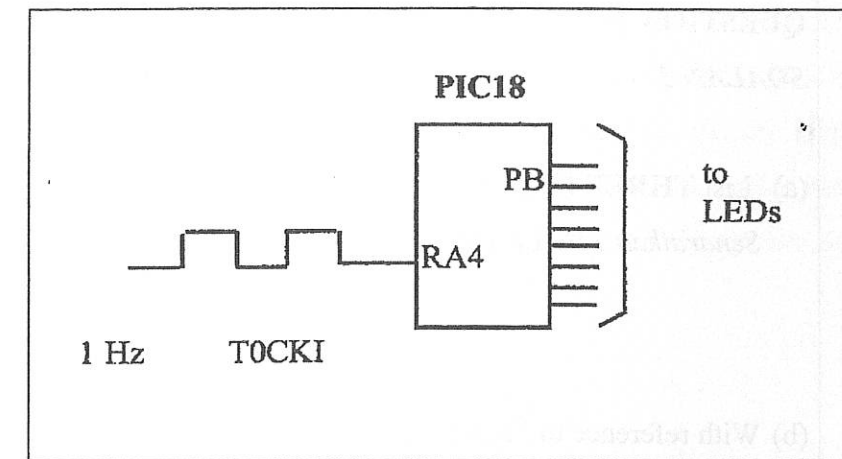

Figure 2 (b): Connection of clock and LED using PIC18
- (b) 1-Hz external clock is being fed into pin T0CKI (RA4) and PORTB is connected to 8 LEDs as illustrate in Figure 2(c). Develop a C program for Counter 0 in 8-bit mode to count up and send data of the TMR0L count to PORTB. Start the count at 0H.